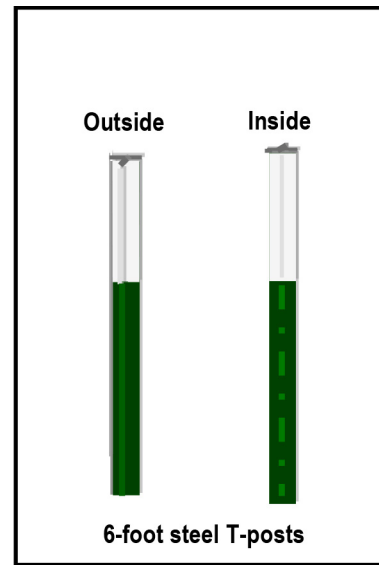

Figure 1. T-posts for a trap door.
1. Set the trap door in place and drive a T-post firmly into the ground on each side of the door. Be sure the studded sides of the T-posts are facing the inside of the trap (Figure 1) and the posts fit snug against each side of the trap door. Fasten the door to the T-posts using heavy-gauge wire.